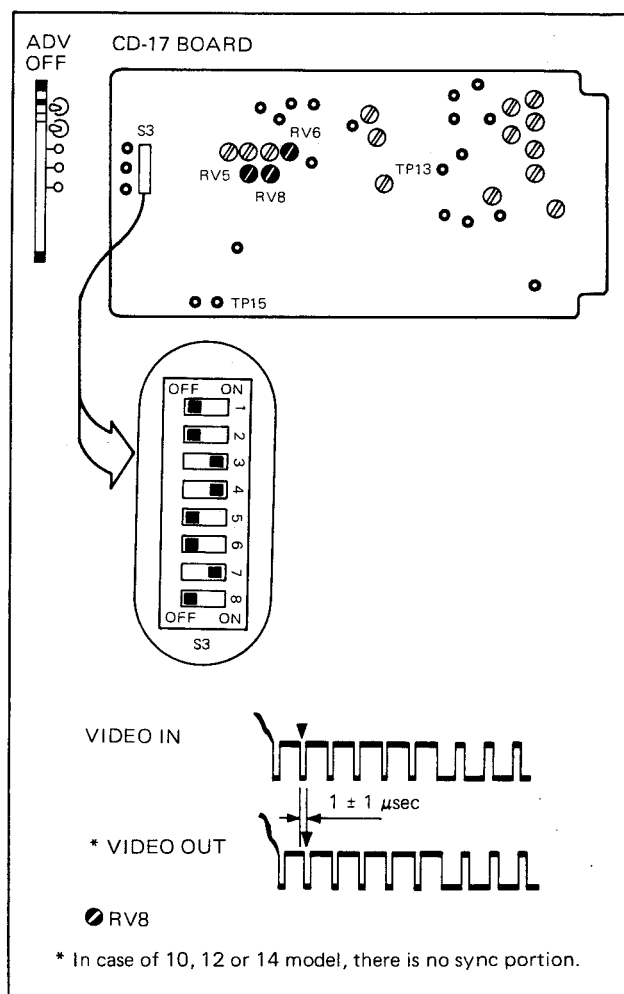

Fig. 10-22. PG Phase Adjustment in the Playback Mode with R/P Head
5. Check that the phase difference between VIDEO IN and VIDEO OUT is within $1 \pm 1 \mu\text{sec}$, as shown in Fig. 10-22.